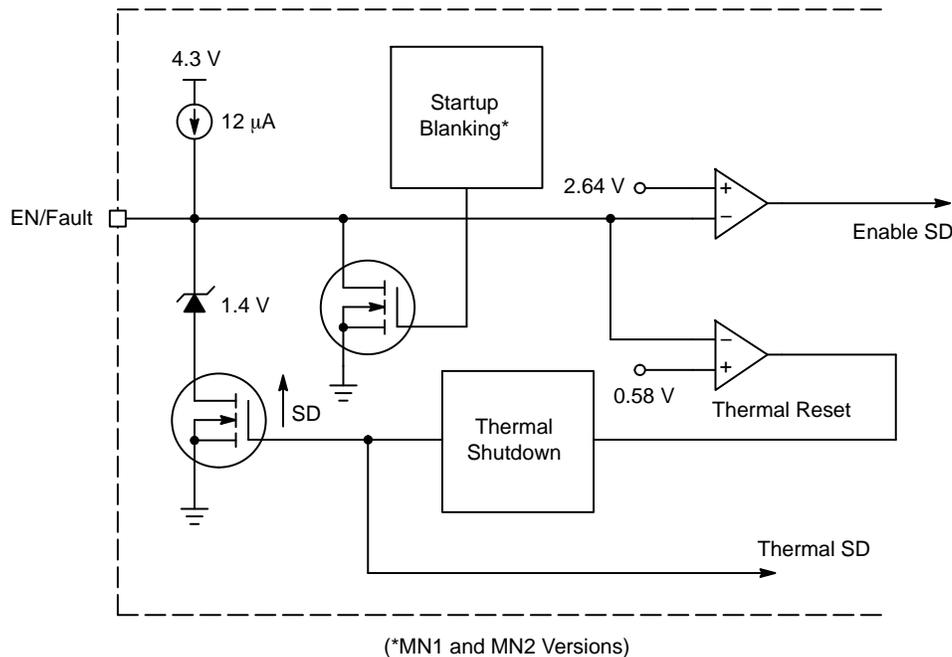

Figure 2. Simplified Schematic of the Enable Circuitry for the NIS5135, NIS5132 and NIS5232
A simplified schematic of the enable circuit is shown in Figure 2. The output of the enable circuit is the enable shutdown (SD) signal. A high enable SD forces the eFuse to shut down, removing power from the load. A low enable SD allows normal operation. The enable SD comparator
generates the enable SD signal based on an internally generated nominal 2.64 V internal reference and the enable voltage as shown in Figure 2. Under normal conditions and with no external input, the enable pin is held high by a 12 μA internal current source and the enable SD signal is low.
startup blanking transistor in Figure 2. After the startup time, the startup blanking transistor is turned off and the enable pin voltage is pulled to a high state.
power to the V_{CC} pin or alternatively by forcing the enable pin into the low state and then releasing the pin. The function of the reset circuit may be seen in Figure 2. If the logic level on the enable pin is changed from the mid level to the low level, the output of the thermal reset comparator goes from low to high, signaling the thermal shutdown circuit to reset.